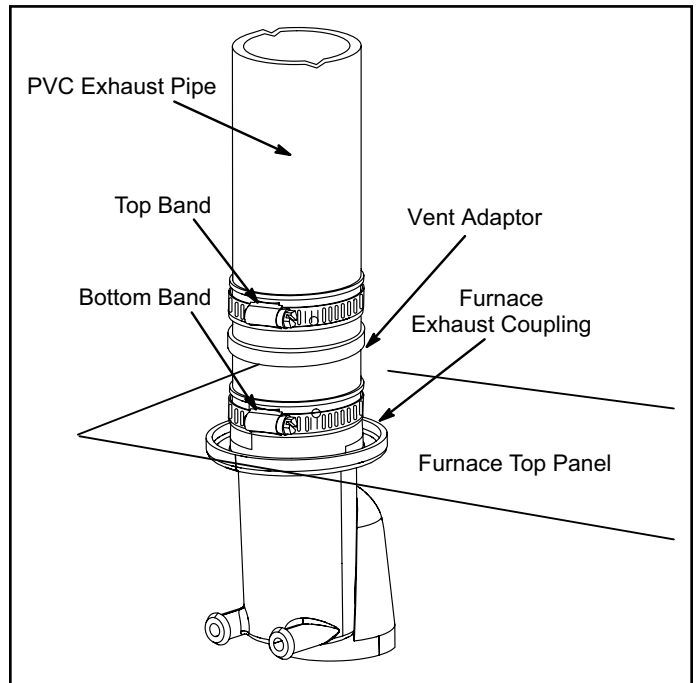

Figure 17. Appliance Adaptor to Exhaust Coupling
NOTE: Exhaust coupling must be installed with provided appliance adapter. See Figure 17.
See Figure 17 through Figure 21
4. Tighten both top and bottom bands to 40 in-lbs. See Figure 17.